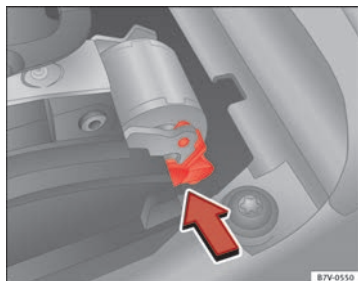

Fig. 199 Manual release of gear selector lever
- Press the release lever ⇒ Fig. 199 in the direction of the arrow and hold it in this position.